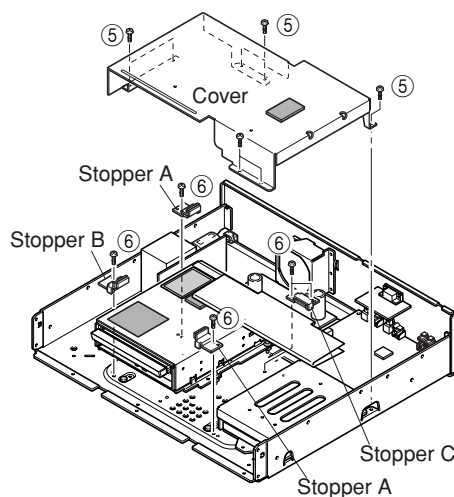

Fig. 2
- Remove 7 screws (⑤) and then remove cover. (U, C models only) (Fig. 2).
- Remove 5 screws (⑥) and then remove each stopper. (Fig. 2).
- Remove the CDR unit rearward while lifting it up. (Fig. 2)
- Install the CDR unit by inserting it from the rear. (Fig. 2)
- Using 5 screws (⑥), install each stopper. (Fig. 2)
- Install the cover and fix it with 7 screws (⑤). (Fig. 2)